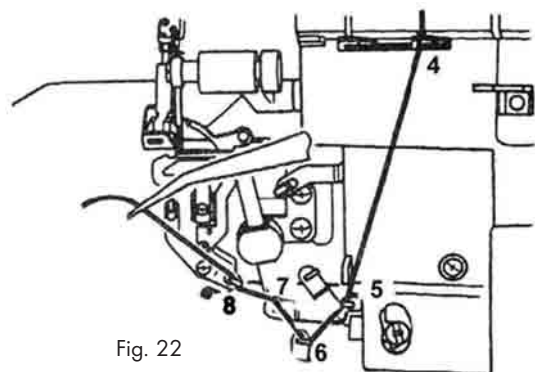

Fig. 22
5. Thread the yarn in the looper area as per the yellow markings (4 - 8) (Fig. 22).